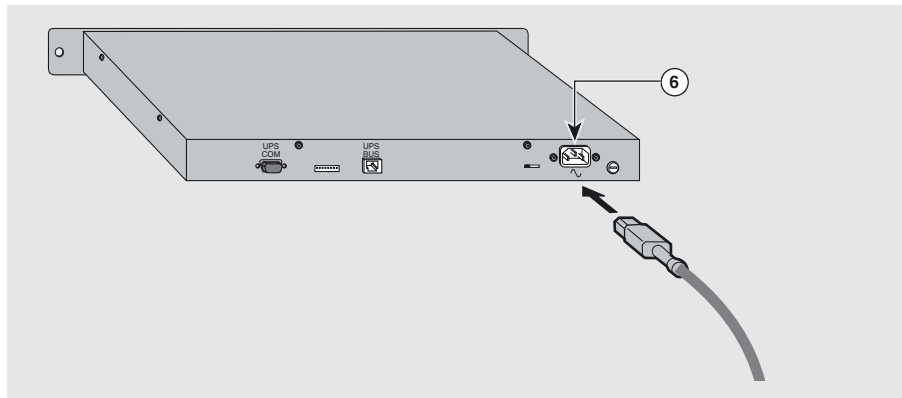

Fig. 4
Once the voltage has been correctly set, insert the cord in the socket **⑥** at the back of the **MultiSlot** module (see figure 4). The cord is made up of two active wires and an earth wire which must be connected to the installation earthing terminal.
- ▶ check that the power cable is properly connected (see figure 4),